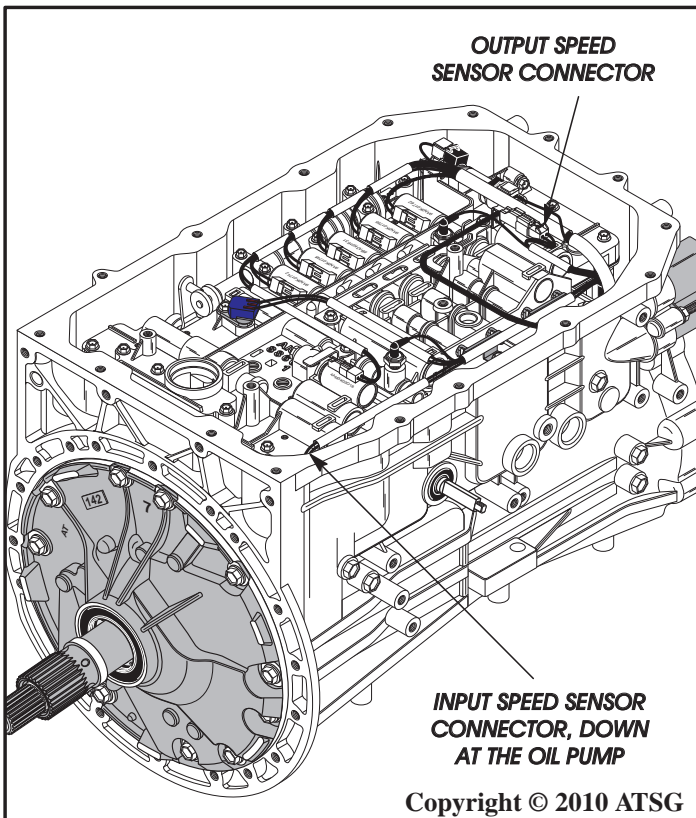

Figure 235
62. Connect White OSS sensor connector to White connector on solenoid bracket (See Figure 235).
63. Connect Yellow ISS sensor connector to Yellow connector located on oil pump (See Figure 235).
64. Connect all solenoids using the chart that you prepared during disassembly (See Figure 235).